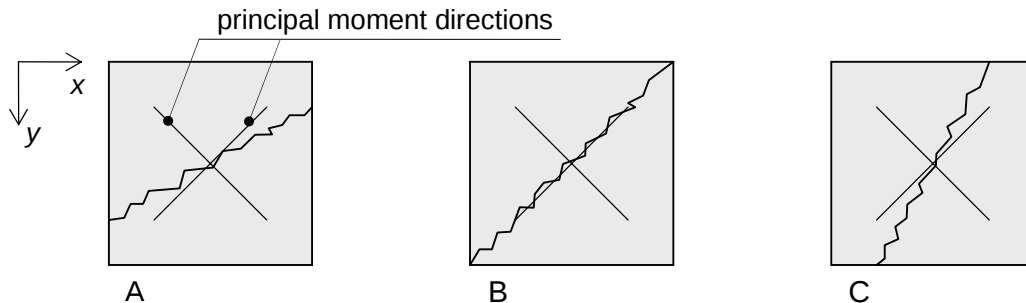

Figure 7. Plate parts with yield lines
- a Consider a small plate part with only a torsion moment $m_{xy} > 0$ (Fig. 7). The reinforcement is in the directions x and y . What is the direction of a positive yield line when $m_{px} > m_{py}$? Choose A, B or C. (0.5 points)